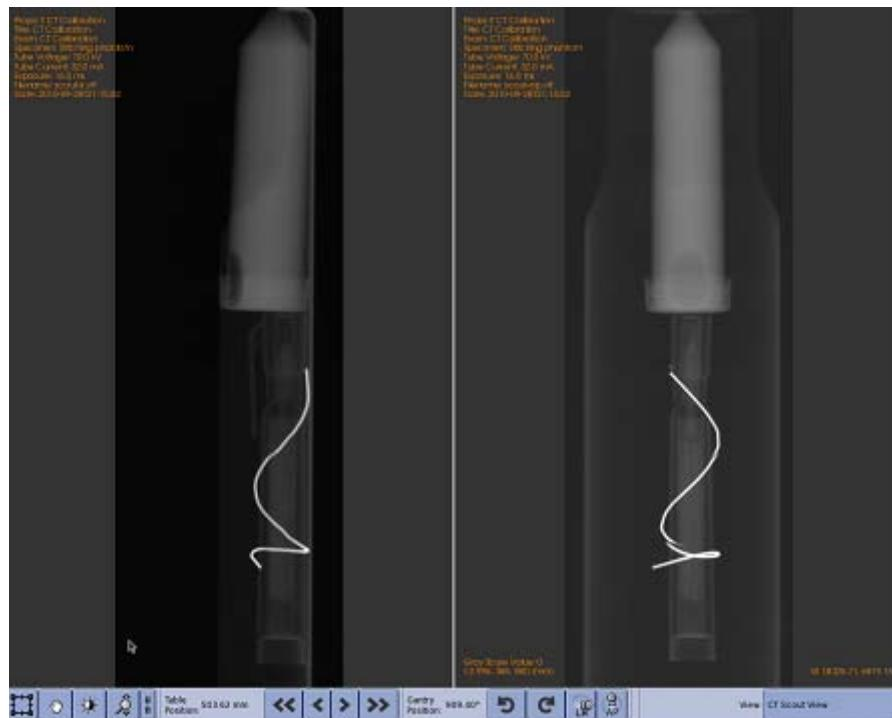

Figure 7-124
8. When the scanner is available, connect and run a confirmation scout scan to verify the new HomeToLaser setting. The result should look like the scout image in (Figure 7-124).